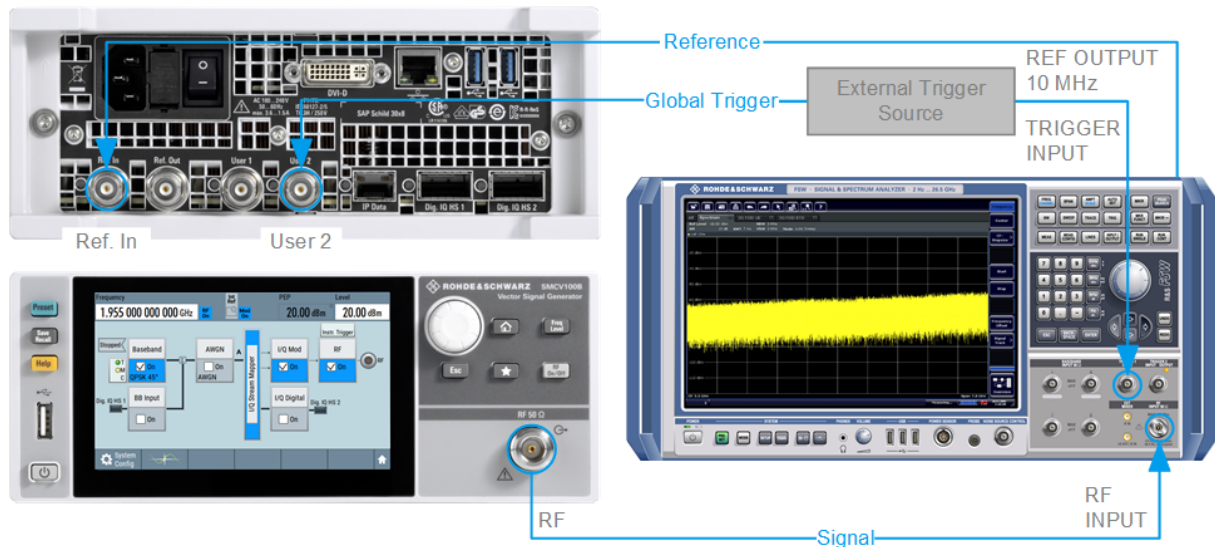

Figure 6-6: Simplified representation of a test setup**
- Use a suitable cable to connect the external trigger source to the "User 2" connector of the R&S SMCV100B. See Figure 6-6.
The Figure 6-6 depicts the location of the connectors and explains the connection as principle. In practice, the analyzer is the DUT, for example a base station.